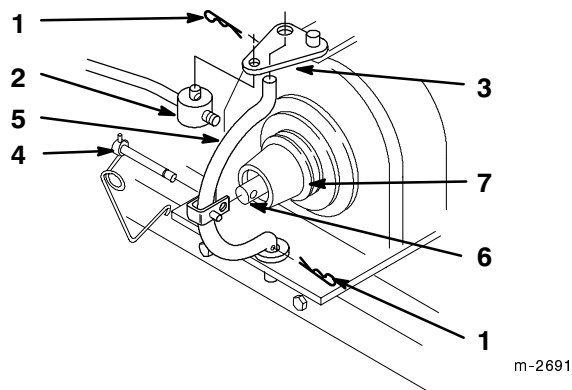

Figure 17
6. Remove hairpin cotters from trunnion and bottom of yoke (Fig. 17).
7. Unlatch and remove clevis pin that secures yoke assembly to clutch shaft. Pivot yoke out and forward to remove from clutch shaft and engagement plate (Fig. 17).
8. Remove belt from pulley (Fig. 17).
9. Assemble yoke and engagement plate and attach clevis pin, trunnion and hairpin cotters to secure (Fig. 17).